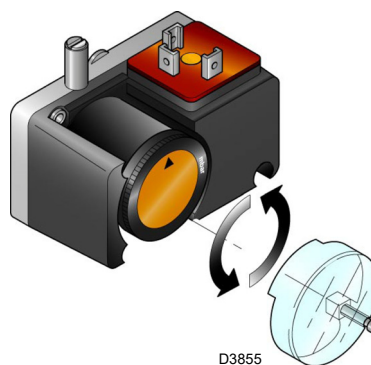

Fig. 33
- Adjust the minimum gas pressure switch (Fig. 33) to the start of the scale.
- Adjust the maximum gas pressure switch (Fig. 33) to the end of the scale.
Adjust the minimum gas pressure switch (Fig. 33) after having adjusted the burner, the gas valves and the gas train stabiliser. With the burner operating at maximum output: